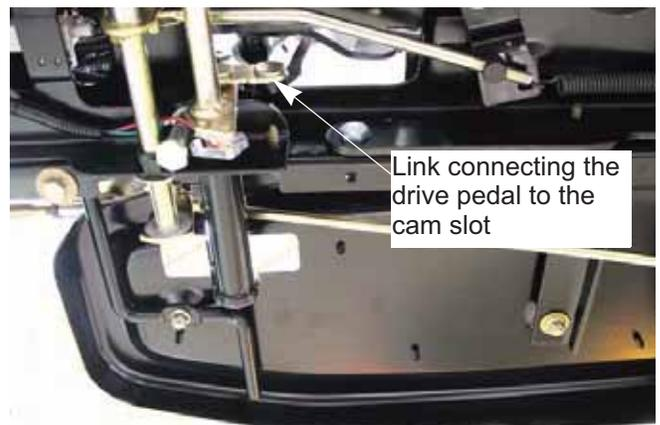

Figure 6A.27
14. Place the link into the bottom of the lever with the cam slot. Insert the hairpin clip to hold it in place. See Figure 6A.27.